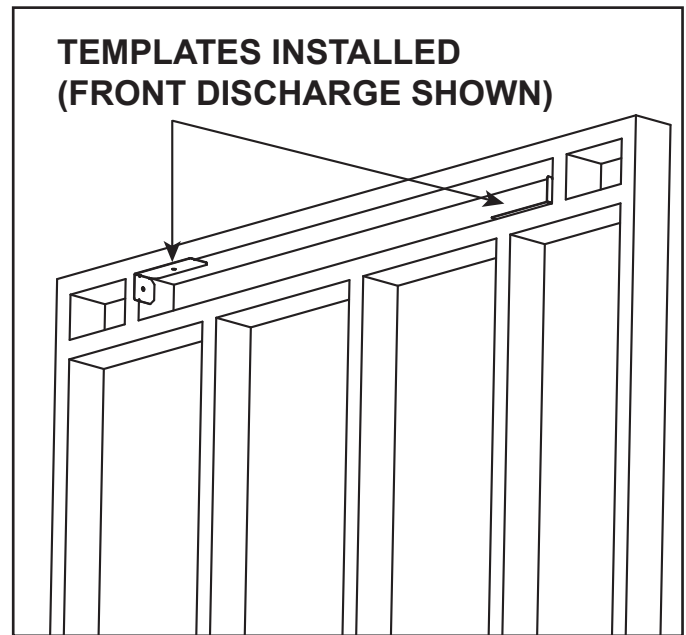
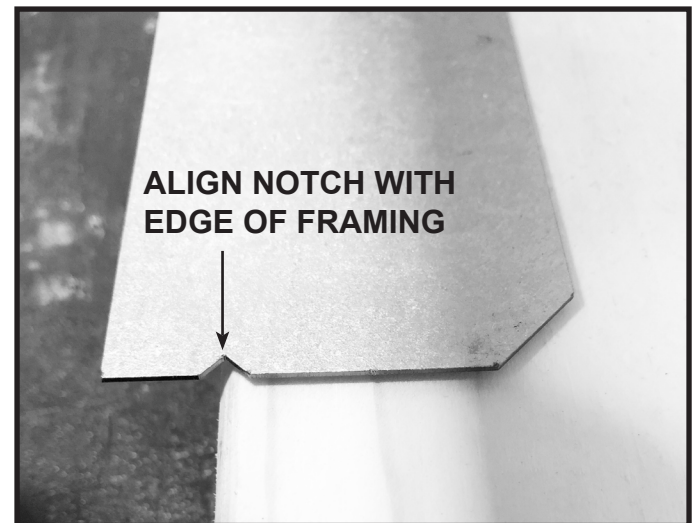

Figure 10 Template Installation
Figure 11 Template Notch Alignment
2. Place one template into the top left corner of the discharge opening as shown in Figure 10. Align the outside edge of the framing with the notch in the template as shown in Figure 11. Attach to framing using wood screws.